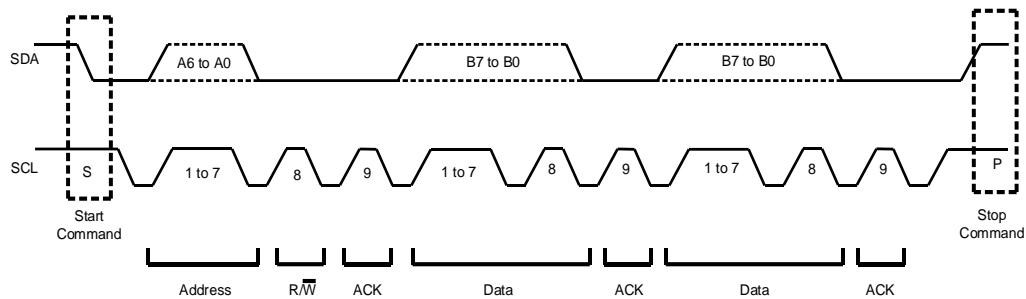

Figure 12: Data Transfer across the PMBus
The start and stop commands are signaled by the master device, which signifies the beginning and end of the PMBus transfer. A start command (S) is defined as the SDA signal transitioning from high to low while SCL is high. The stop command (P) is defined as the SDA signal transitioning from low to high while SCL is high (see Figure 12 on page 25).